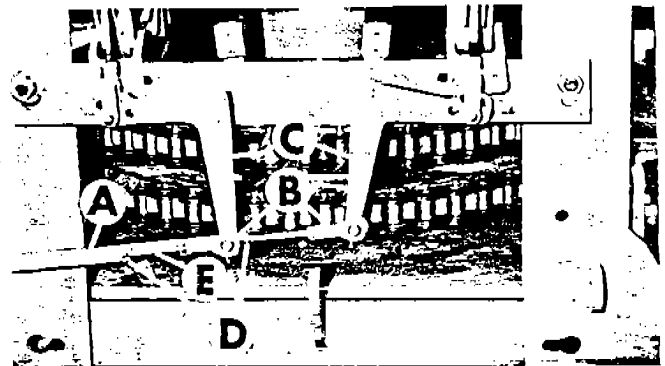
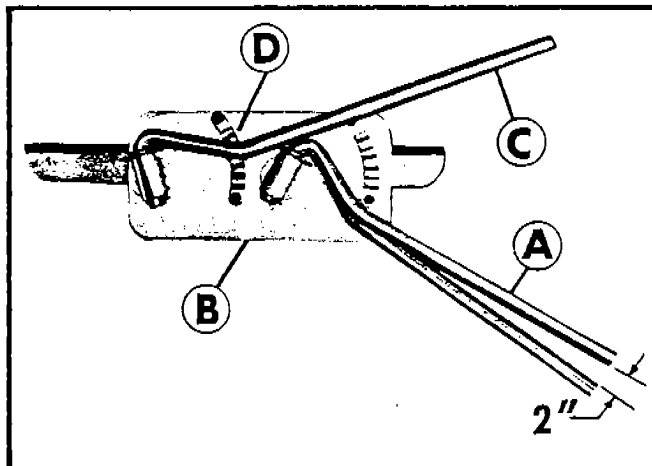

FIG. 2
FIG. 3
The clutch control rods (A) Fig. 2 are adjusted by removing the clutch control rod ends (B) from the levers (C) and, with the control handle (A) Fig. 3, on the control stand (B) in a position about two inches from the extreme back position as shown in Fig. 3 and with the clutch engaged, release the lock nuts (D) Fig. 2, adjust the clutch control rod end studs (E) in or out until the rod ends (B) align with the pins on lever (C). Complete the adjustment by mounting the rod ends (B) on the pins on levers (C) inserting the cotter keys and tightening lock nuts (D).
The brakes (A) Fig. 4 are adjusted by means of the nuts (B). The adjustment should be such that, with the control handle (C) Fig. 3 in the center segment of ratchet (D), the brakes are set. As the brakes wear and no further adjustment can be made with nuts (B), further adjustment may be made by disconnecting clevis (C) Fig. 4 and unscrewing it on brake rod (D). However, when this adjustment is employed, never go beyond the point where less than four or five threads of the brake rod (D) are engaged in the clevis (C). When the adjustment is completed, be sure to tighten lock nut (E). Replace the brake lining on the band before the rivets score the drum.